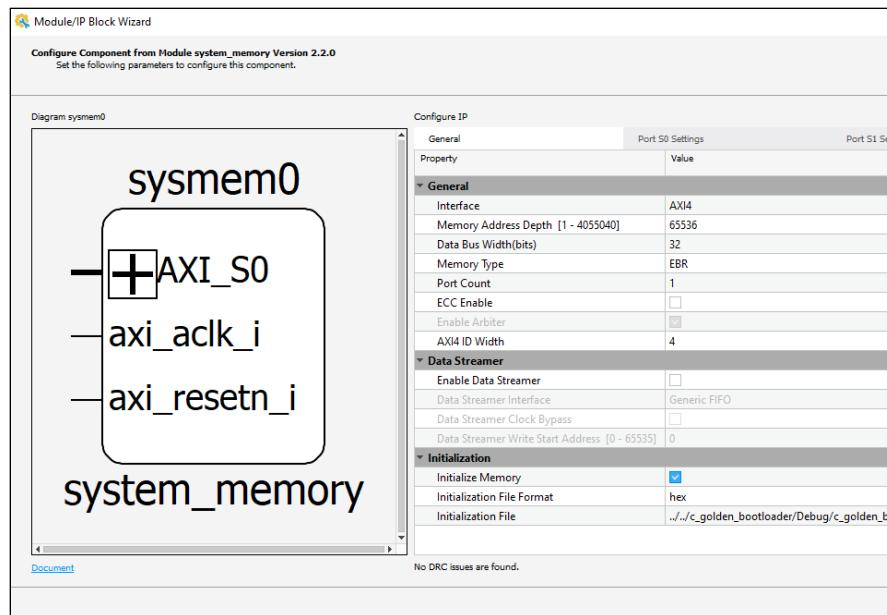

Figure 8.41. System Memory IP Configuration
5. Double-click on the highlighted component shown in the schematic and it opens the Module/IP Block Wizard as shown in Figure 8.41.